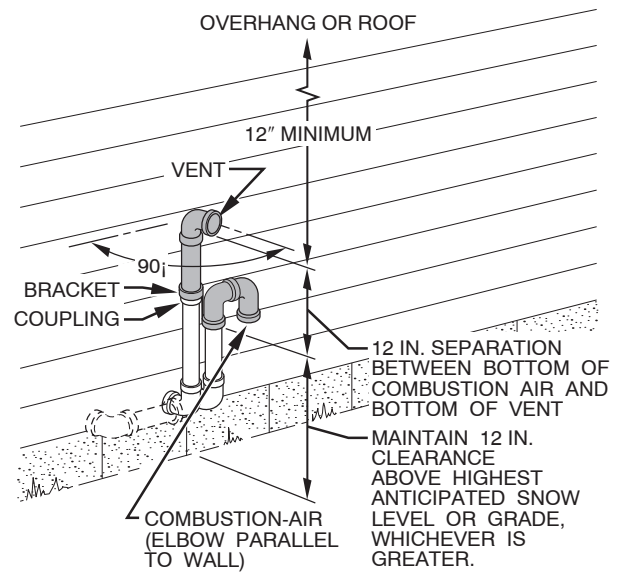

Fig. 5 - Sidewall Termination
4. Loosely install U-fitting and bracket as shown in Fig. 5. Position U-fitting so open end is against structure wall.
5. Loosely install vent outlet pipe and elbow in coupling as shown in Fig. 5.
6. Check required dimensions as shown in Fig. 5.
8. Install bracket as shown in Fig. 5.